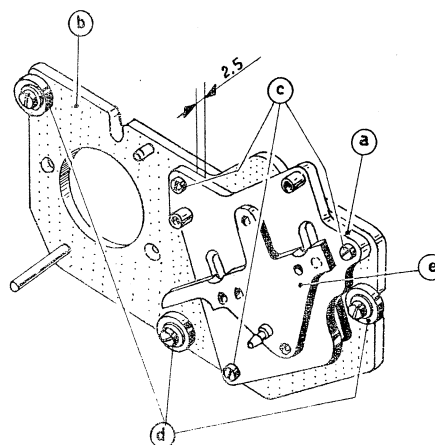

Fig. 1
### 1. Mounting of the workplates fig. 1
- Mount assembly to workplate (a), fig. 1.